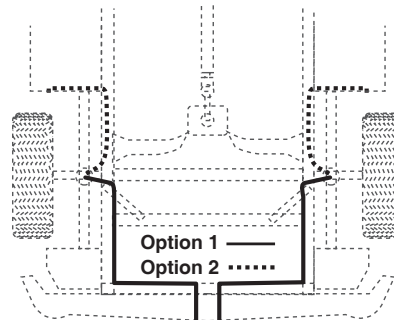

fig. 15
6. Route the air line along the frame to the air fitting on the air spring (Fig. 15). Keep AT LEAST 6" of clearance between the air line and heat sources, such as the exhaust pipes, muffler, or catalytic converter. Avoid sharp bends and edges. Use the plastic tie straps to secure the air line to fixed, non-moving points along the chassis. Be sure that the tie straps are tight, but do not pinch the air line. Leave at least 2" of slack to allow for any movement that might pull on the air line.